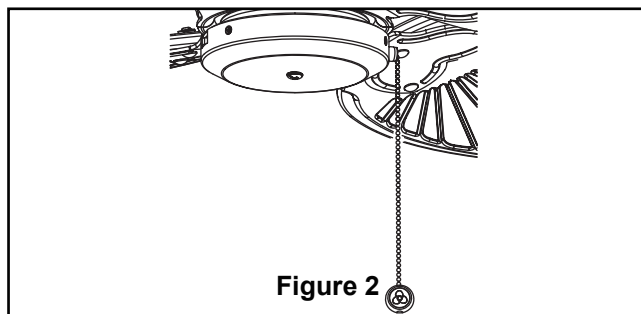

Figure 2
- ☐ 2. Check the operation of the fan by gently pulling on the fan fob. (Figure 2)